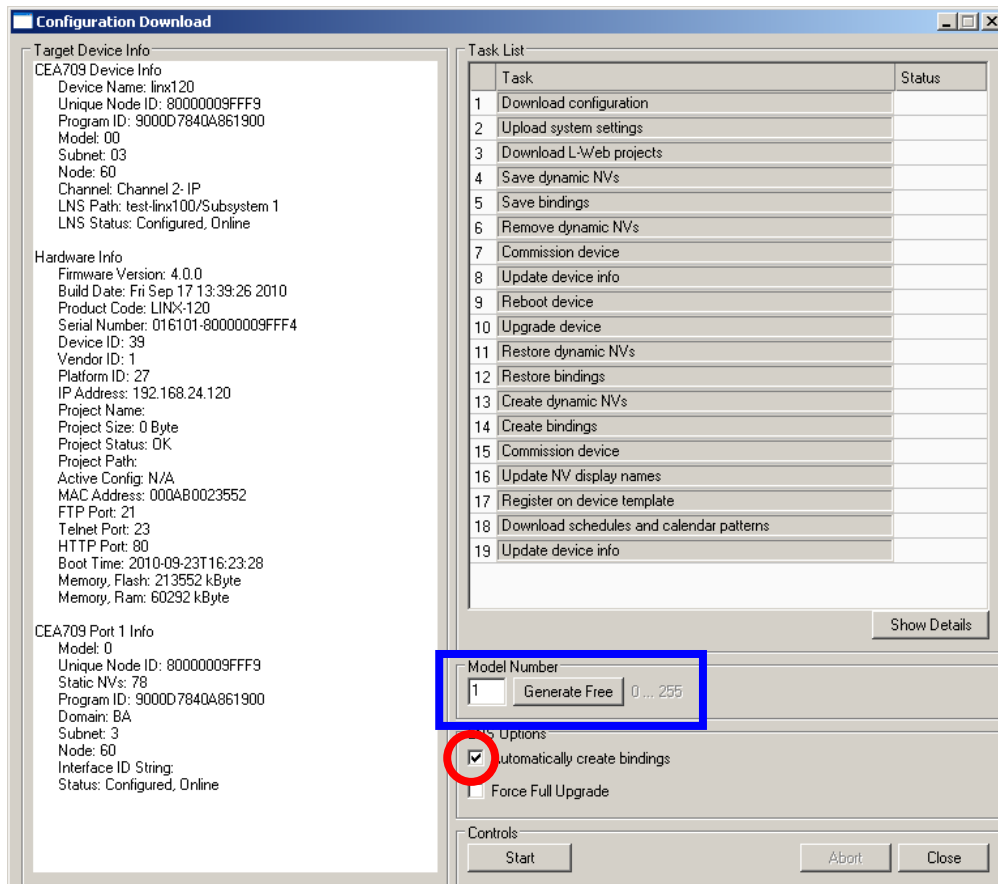

Figure 151: Configuration Download Dialog via LNS.
2. If no bindings shall be generated, deselect the **Automatically create bindings** checkbox indicated by the red circle in Figure 151.